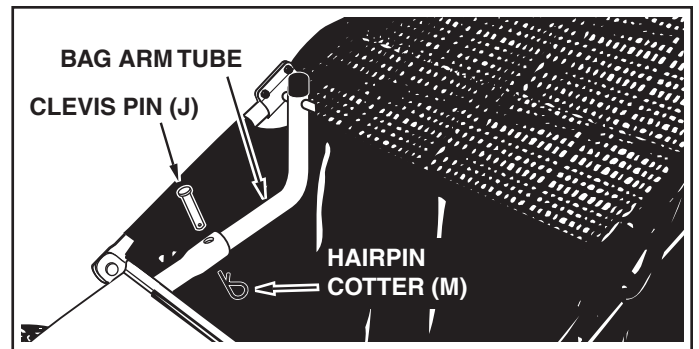

FIGURE 20
STEP 22: (SEE FIGURE 20)
- To attach the hopper bag to the sweeper, slide the ends of the bag arm tubes into the ends of the hitch tubes and secure with two clevis pins (J) and hairpin cottes (M).